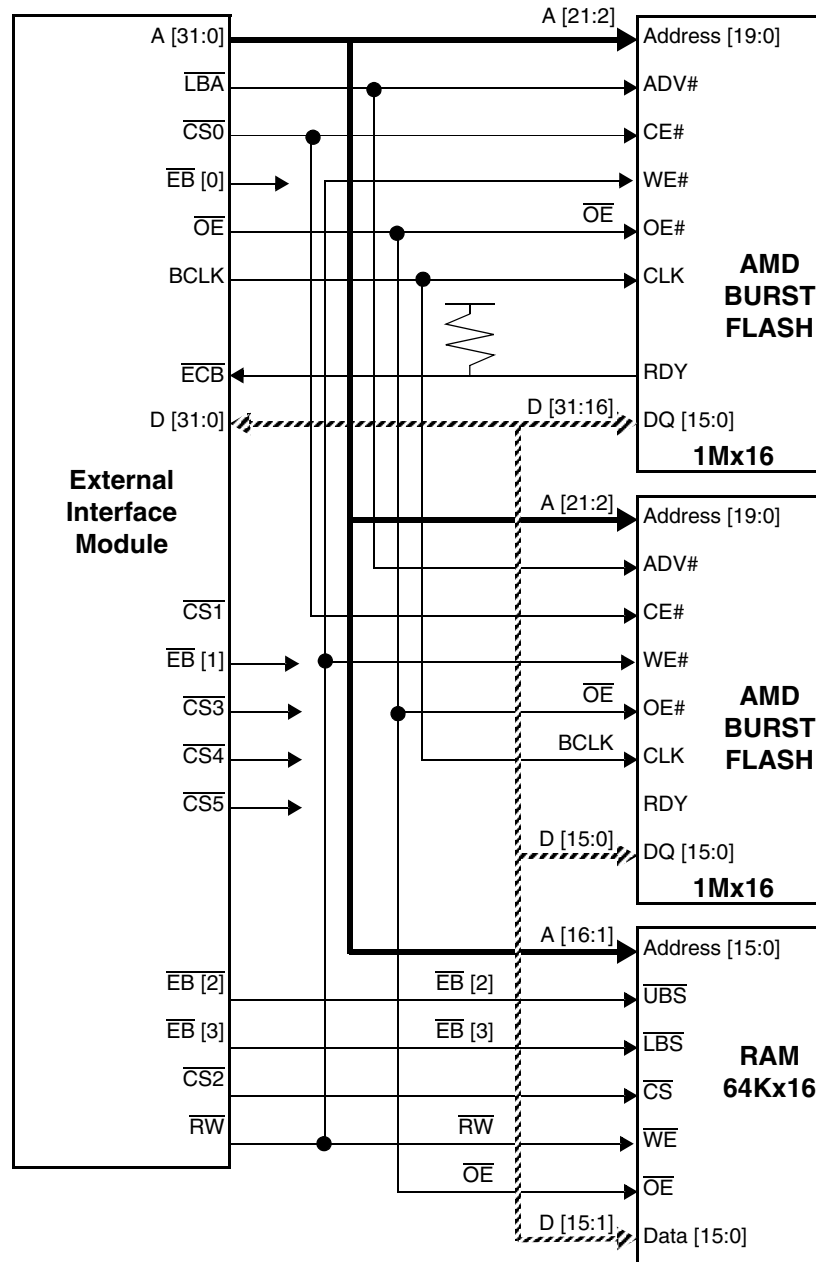

Figure 11-2. Example of EIM Interface to Burst Memory
- Figure 11-2 illustrates the EIM interface to two supported external burst flash devices.